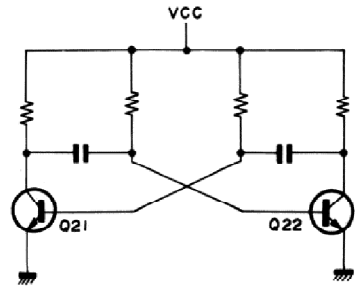

Fig. 3 Astable Multivibrator
3. Adjust the trimming pot. VR3 (VR4), as shown in Fig. 3, for 20 mV reading of the voltmeter.